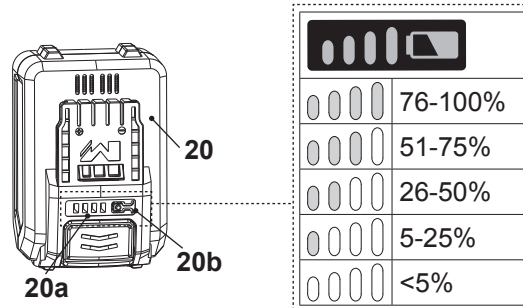

Fig. 11
The battery pack (20) is equipped with the battery capacity indicators (20a) which are used to give an indication of the battery pack's remaining capacity. Press the battery capacity button (20b) to check battery capacity (Fig. 11). The LEDs will stay lit for approximately 5 seconds.